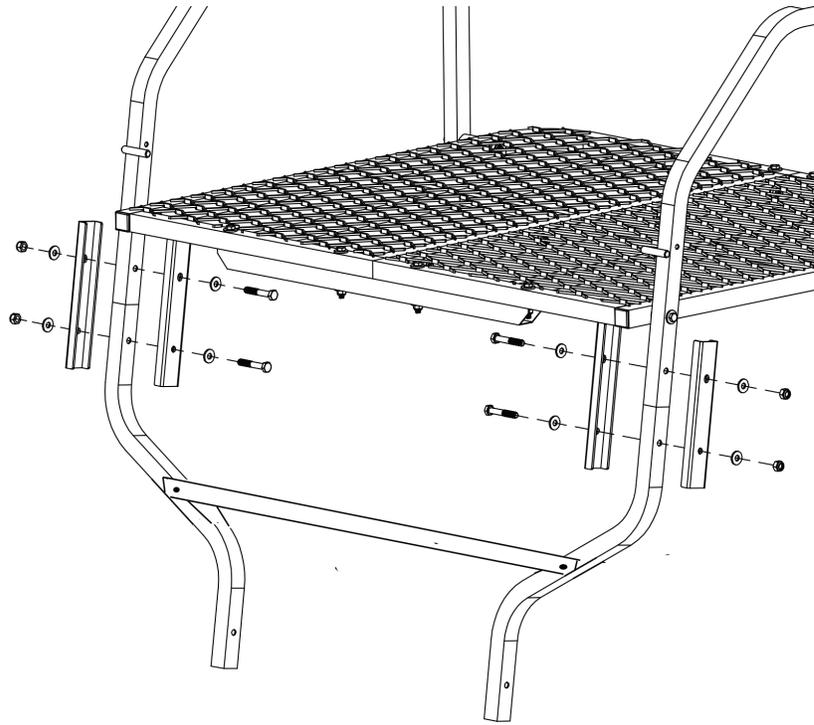

Figure 33
STEP 18: Attach the ladder adapter to the bottom of the uprights below the base of the stand using four (4) ladder connectors and four (4) 5/16" x 2" bolts, eight (8) washers and four (4) nuts as shown in Figure 33. Do not tighten bolts yet.